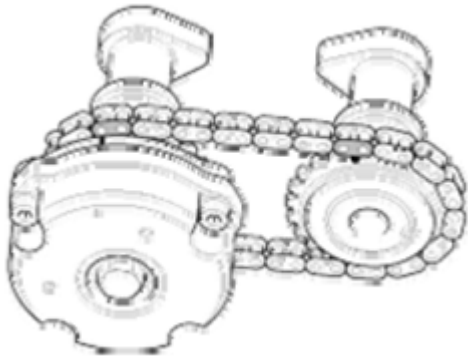

Fig. 42: Aligning Camshaft Timing Chain With Intake Timing Chain Sprocket & Exhaust Timing Chain Sprocket
1. Align the camshaft timing chain with the intake timing chain sprocket and exhaust timing chain sprocket as shown in **Fig. 42**.